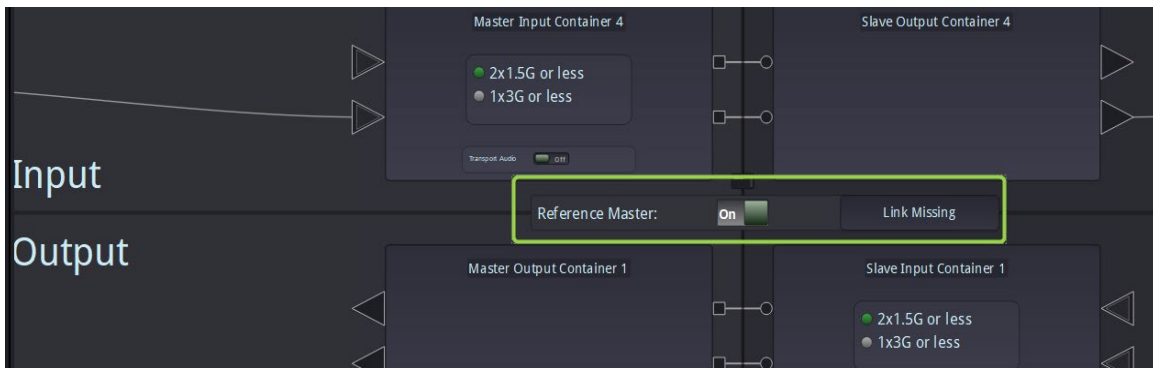

Fig. 1: Reference Master Switch
4. Zoom in and set the parameter "Reference Master" to "ON" as shown in Fig. 1
2. Select the GreenMachine set as reference Master (Fig.1)